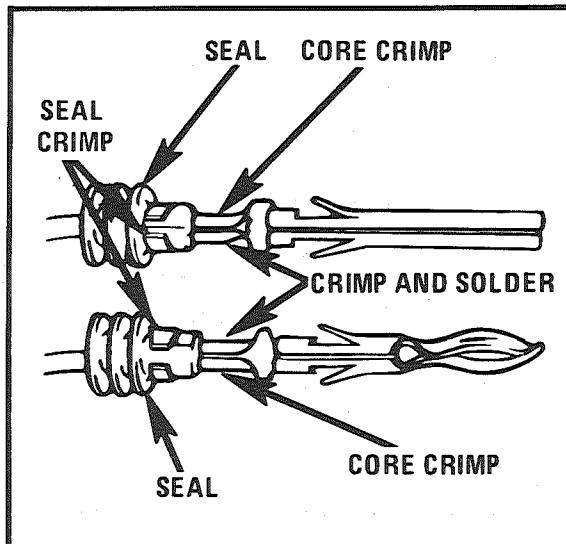

Figure 30 - Replacing The Terminal
- Crimp the new terminal over the copper strands (core crimp) as shown in Figure 30. (Use a standard crimping tool, number J25563 in the Kent-Moore catalog.)
- Crimp the grips at the end of the terminal around the cable seal and insulated wire as shown in Figure 30 (insulation crimp). Apply light pressure for this crimp.